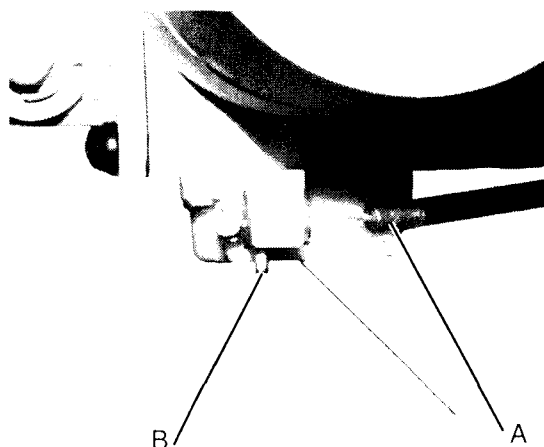

Figure 1
7. Use the wire cutter to cut the plastic clamps which hold the cable sleeve under the bed frame. Pull on the release cable sleeve on the Head Section motor body in order to release the cable retainer (A) (see figure 1).
8. Insert the small standard screwdriver in the release control cam, push the cable clamp clip (B) in order to release the cable (see figure 1).